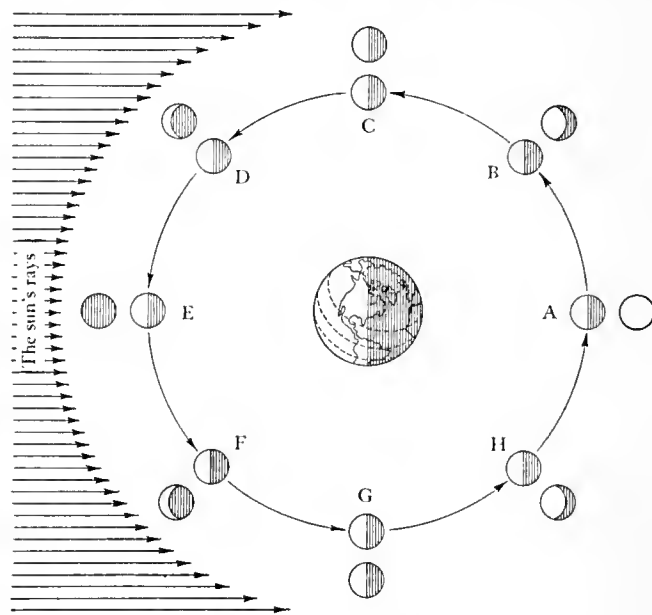

FIG. 310. PHASES OF THE MOON
Study Figure 310 carefully as you read the following paragraphs and learn how the phases of the moon are produced. Think of the sun as far off to the left. The arrows show the rays coming from the sun. When the moon is at *E*, the point in its revolution where it is between the sun and the earth, the illuminated side of the moon is turned from the earth and we cannot see it. This is called *new moon*, which really means no moon.
2. When the moon is at *A* (Fig. 310) its phase is spoken of as ____.